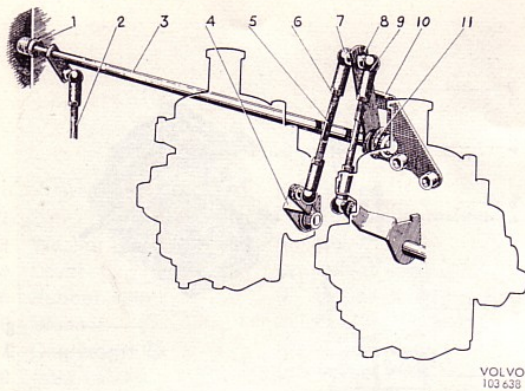

Fig. 95 Throttle control, B 20 B
4. Connect a CO-meter and check that the CO-content is within the limits 2.5–3.5 %. With the help of the idle trimming screws (6, Fig. 95) the CO-content can be adjusted within small deviations. (If the CO-content is too high, check first the temperature compensator, see under "Temperature Compensator".)